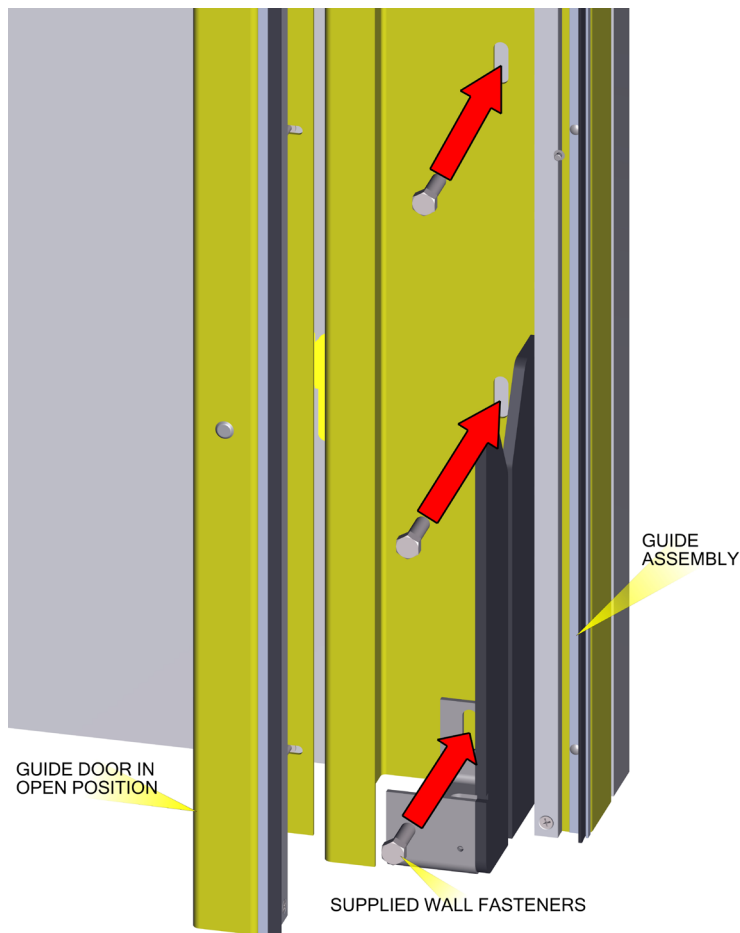

Figure 4
- Open hinged guides and mount to the wall surface using supplied fasteners. See **Figure 4**.